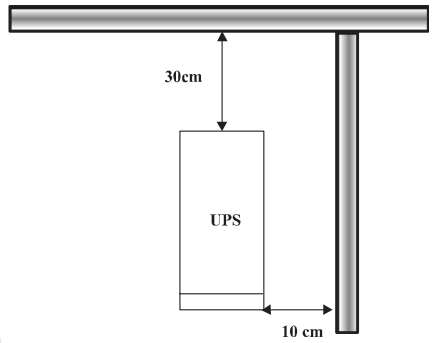

Fig.4
- The UPS should always have a clearance space of 300mm at the rear and 100mm on its side. Refer to Fig.4.